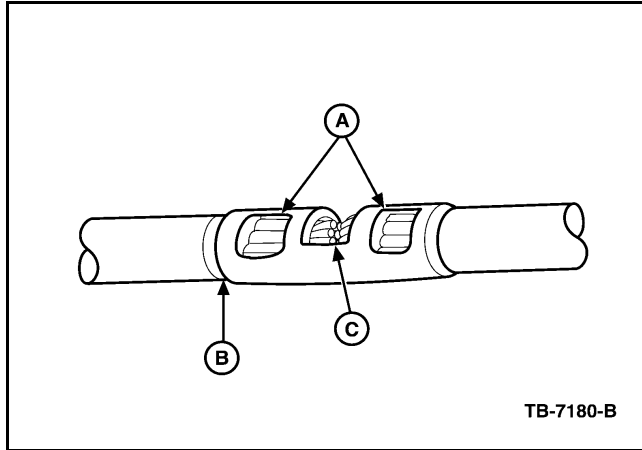

Figure 9 - Article 05-18-7
- Crimp should be centered on each end of the butt splice. It is acceptable for crimp to be slightly off center, but not off the end of the butt splice (Figure 9-a).
- Wire insulation does not enter butt splice. Wire is flush with or extends slightly beyond end of butt splice (Figure 9-b).
- Wire is visible through inspection hole of splices (Figure 9-c).